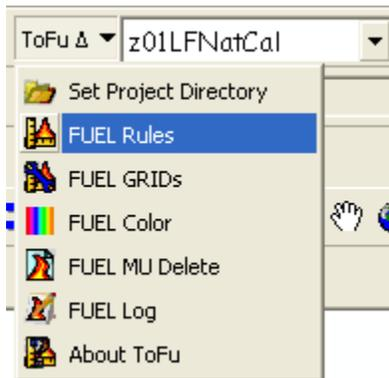

Figure 6-8. Select **FUEL Rules** option on the drop-down menu.
- To begin, select the **FUEL Rules** from the drop-down menu on the left-hand icon of the toolbar (fig. 6-8).